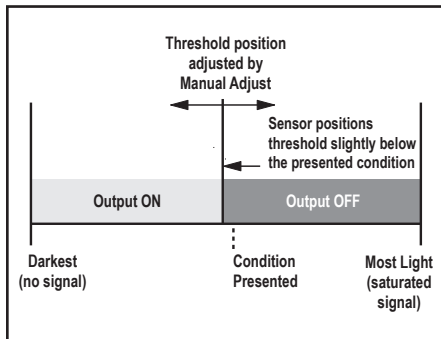

Figure 7. Single-Point Light SET (Dark Operate shown)
- Sets a threshold slightly below the taught condition (see Figure 7)